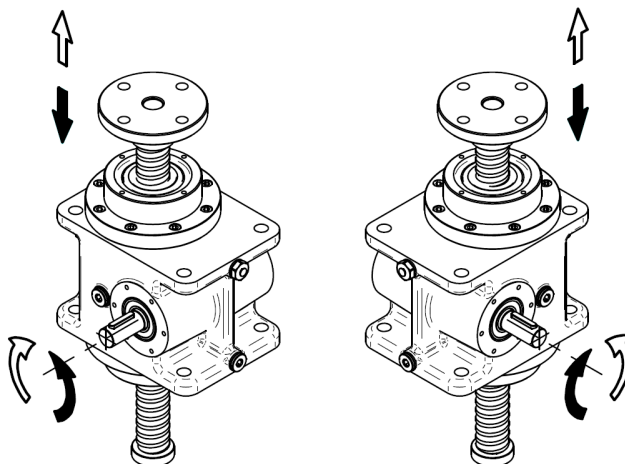

Figure 6.6 –Screw jack shifting directions
- If the length of the screw jack have to be changed (ball screw more retracted or extended) during installation, rotate the input shaft in proper direction (see Fig. 6.6).
- In case of screw jack without anti-rotation device (AR), it is possible to manually screw/unscrew the ball screw to change the length of the screw jack.
- In case of screw jack with bellow protection (B): DO NOT TWIST THE BELLOW.